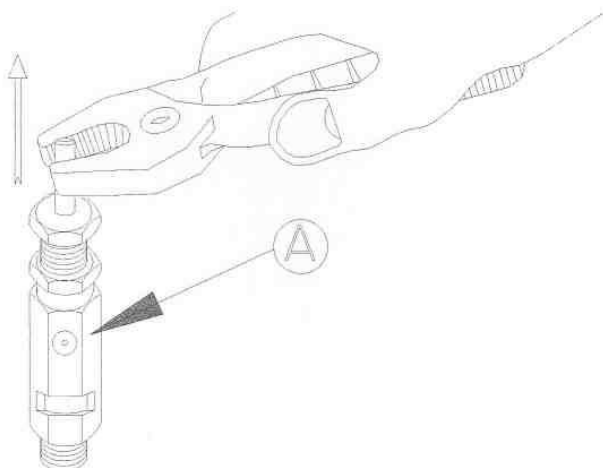

FIG. 9
- 3 Release the counter-nut (1).
- 4 Tighten the regulation screw (2) to increase the pressure to the desired value.
- 5 Loosen the regulation screw (2) to reduce the pressure to the desired value
- 6 Tighten the counter-nut (1) and close the cocks.
-- 8.4) SAFETY VALVE CHECK (Fig. 9) --
2. With cocks closed and engine running at minimum speed, lift up the pin using a pair of pliers as indicated in fig.9 and release as soon as the valve appears to discharge air.